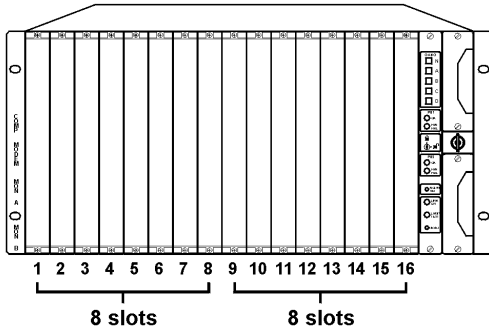

Figure 3-9. Rack Configurations.
1. One-section rack: In the one-section rack, the bus can connect to all 16 slots (see Figure 3-9). By default, the rack you receive is configured to be a one-section rack.
That is, one bus connects to eight slots, and the other bus connects to the other eight slots (see Figure 3-9).